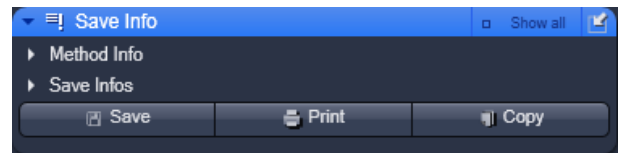

Fig. 9-72 Save Info panel
- Click on the **Save Info** tab to open the **Save Info** panel. (Fig. 9-72). Click again to close the panel.